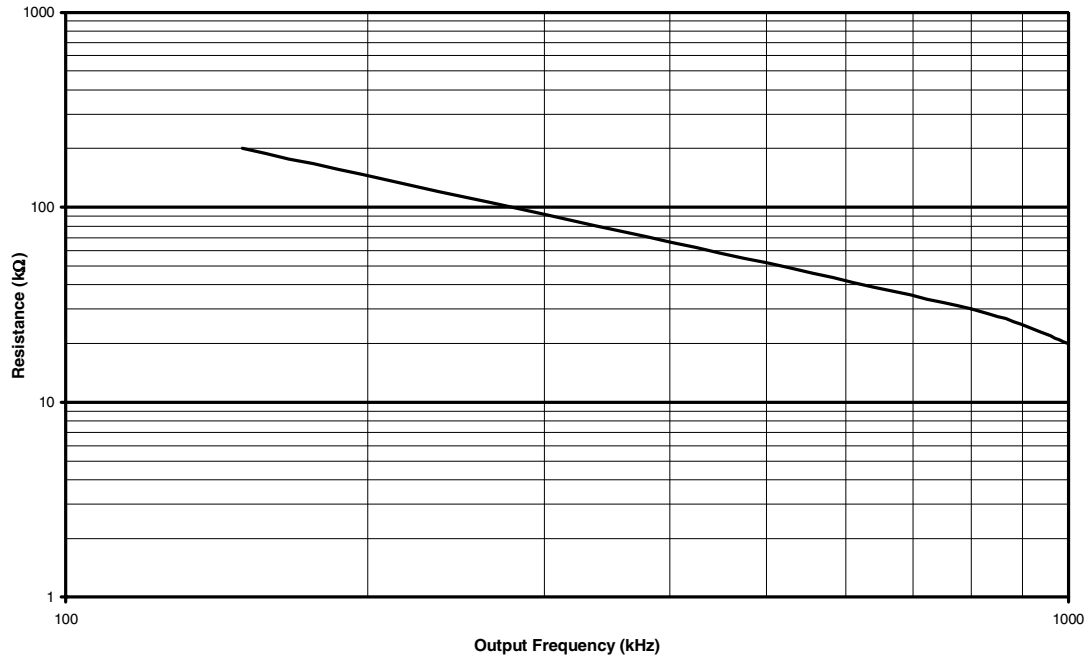
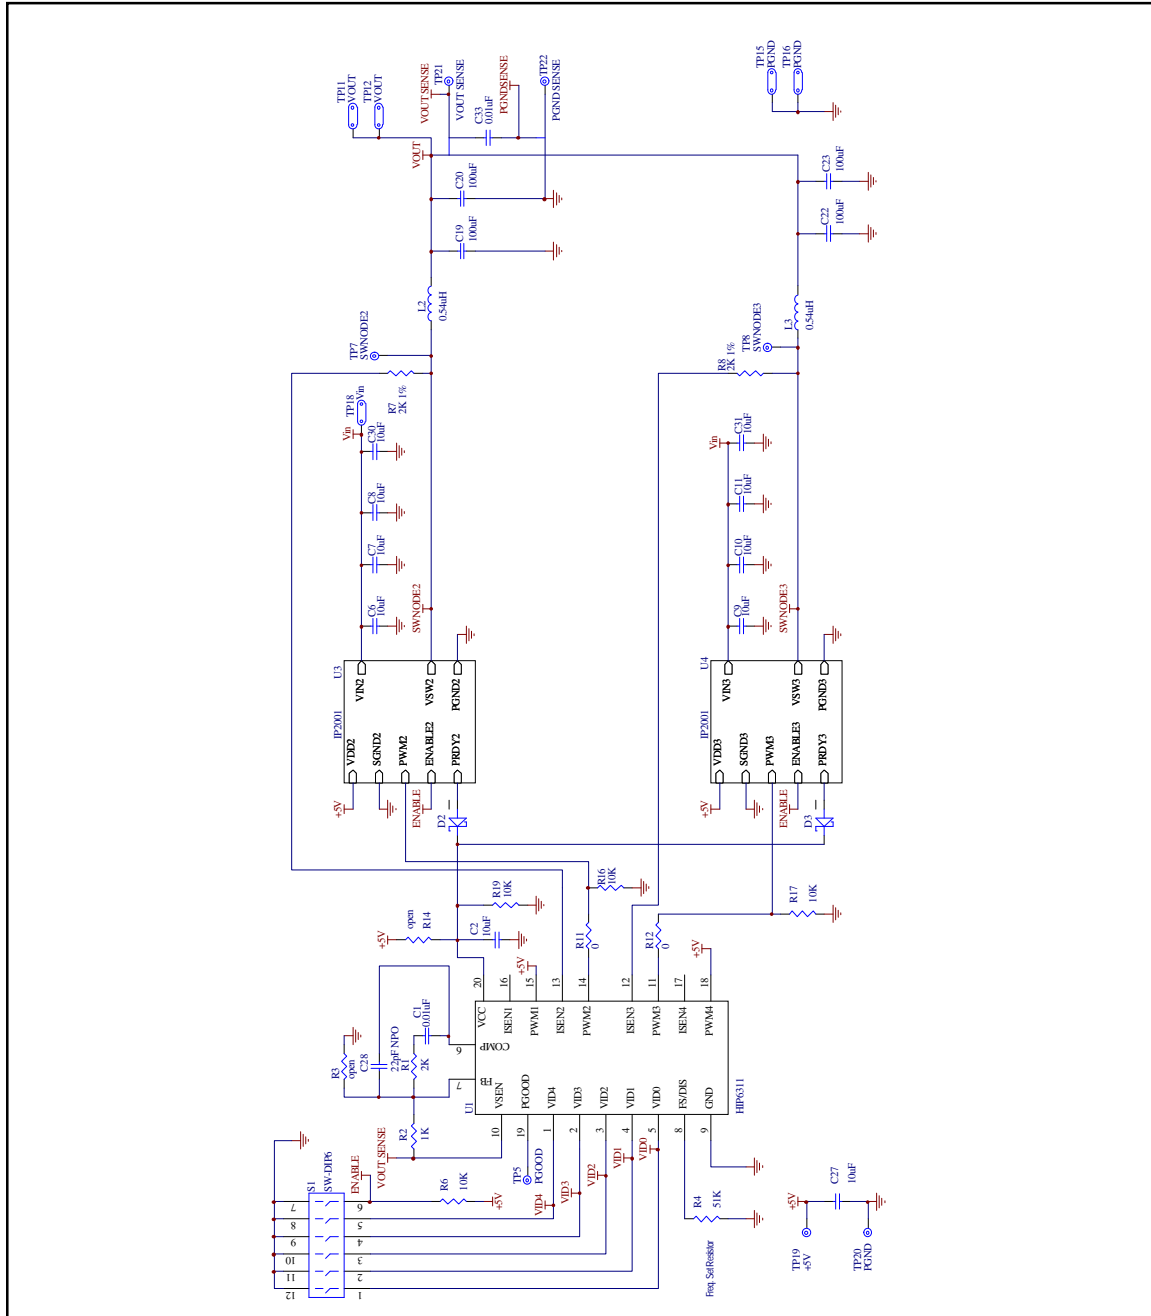

Figure 1 - R4 vs. Frequency (per Phase)
Fig. 3 - Reference Design Schematic
In this document, table 1 and figure 1 are provided to enable engineers to easily evaluate the iP2001 in a 2-phase configuration that is capable of providing up to 40A in a lab environment without airflow. Figures 3, 4, 5 and 6 and the complete bill of materials in table 2 are provided as a reference design to enable engineers to very quickly and easily design a 2-phase converter. In order to optimize this design to your specific requirements refer to the data sheet for the controller listed in the bill of materials. A variety of other controllers may also be used, but the design will require layout and control circuit modifications.
- The switching frequency per phase is set to 500kHz with the frequency set resistor R4. This creates an effective output frequency of 1Mhz. The graph in figure 1 shows the relationship between R4 and the switching frequency per phase. This frequency may be adjusted by changing R4 according to this graph; however, extreme changes from the 500kHz set point may require redesigning the control loop and adjusting the values of input and output capacitors. Also, refer to the SOA graph in the iP2001 datasheet for maximum operating current at different frequencies.